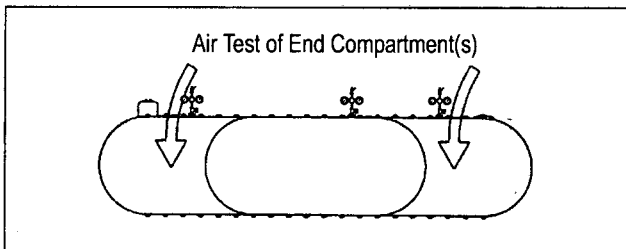

FIGURE 4-3
4.5.3. Pressurize the end compartment(s). See SECTION 3.5. and FIGURE 4-3.